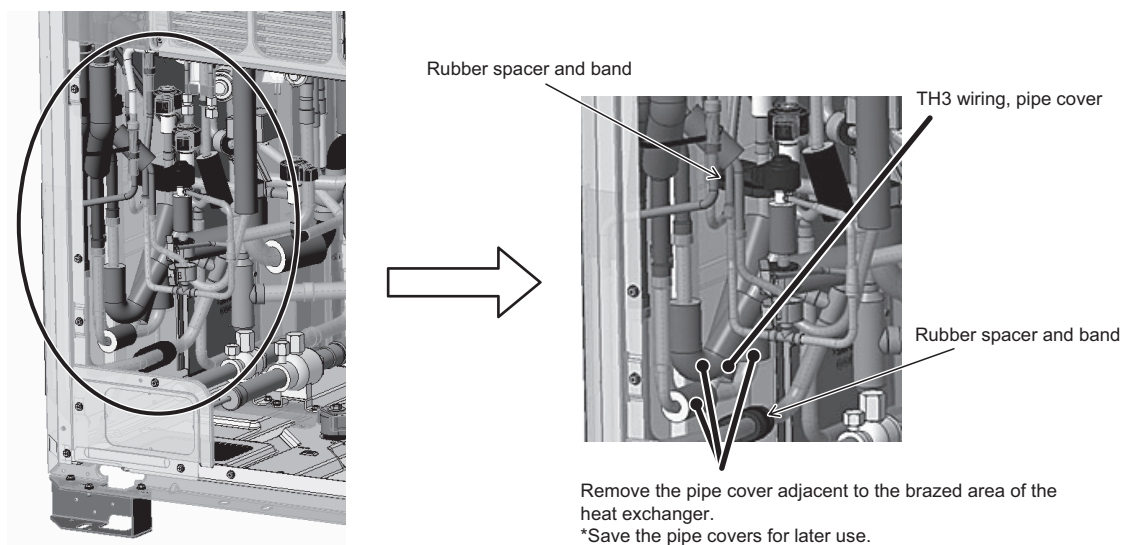

Figure 6
- (6) Cut the bands on the TH3 wiring, and remove the pipe covers and rubber spacer on the heat-exchanger side. (See Figure 6.)